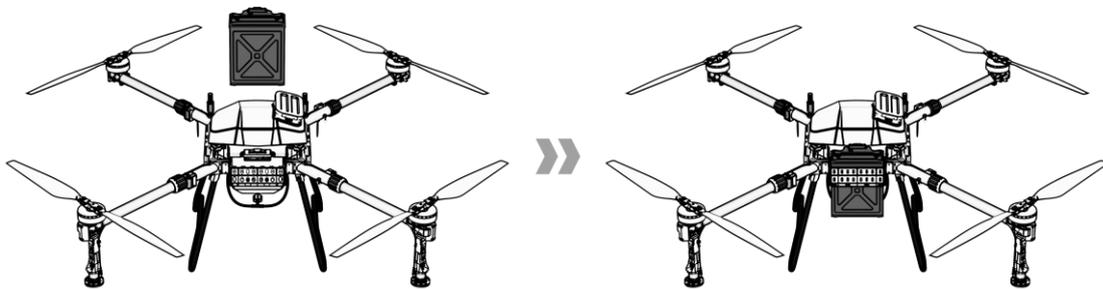

Figure 1-35 Insert the battery
**Step 5:** Unfold the propellers to 180°, as shown in Figure 1-35.